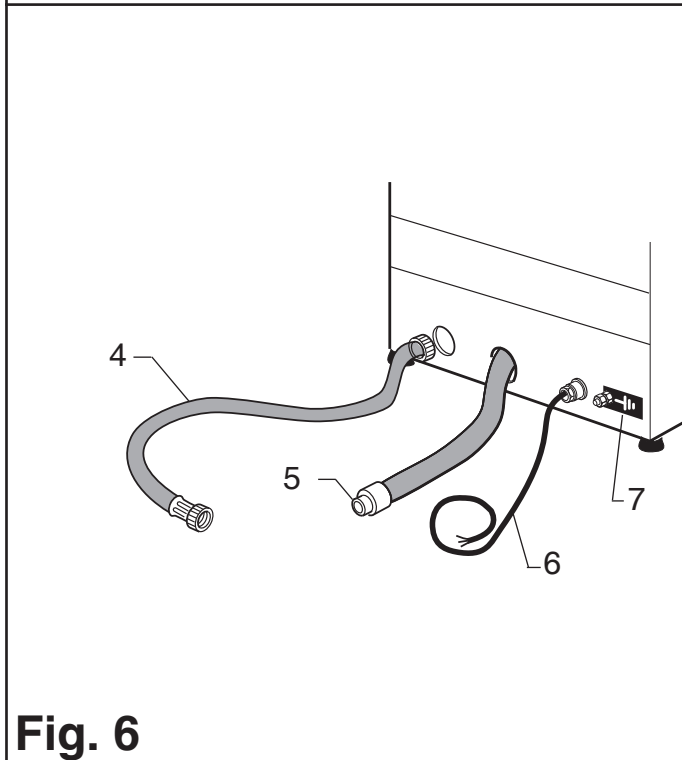

Fig. 6
3.1 INSTALLATION (Fig. 6/7)
- Position the machine in its final installation site and level it by actuating the adjusting feet (20).
3.1.a DRAIN HOSE CONNECTION (Fig. 6)
- Connect the drain hose (5) to a preset drain well.
3.1.b WATER CONNECTION (Fig. 6)
- Connect the supplied filler hose (4) to the solenoid valve and the other end of the filler hose (4) to a 3/4" G threaded valve and apply the filter (8).